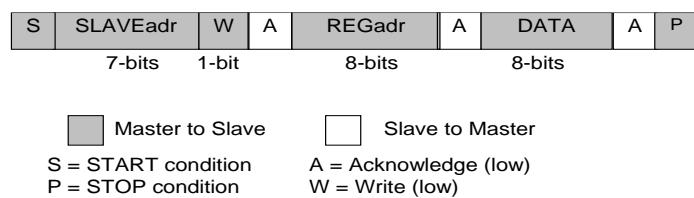
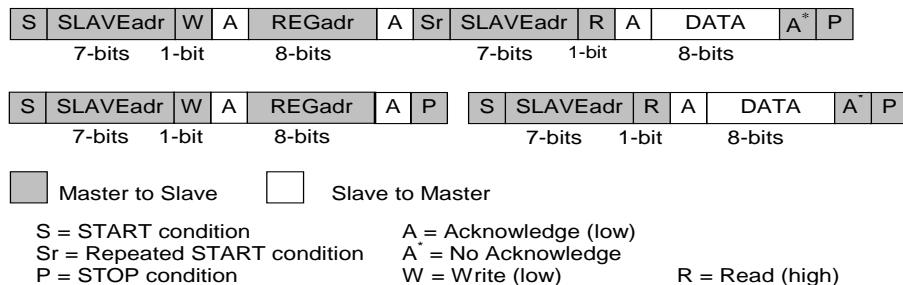

Figure 12: I²C Byte Write (SDA Line)
Figure 13: I²C Byte Read (SDA Line) Examples
The I²C bus is monitored for a valid slave address whenever the interface is enabled. It responds immediately when it receives its own slave address. The acknowledge is done by pulling the SDA line low during the following clock cycle (white blocks marked with A in Figure 12 and Figure 13).
The protocol for a register write from master to slave consists of a START condition, a slave address with read/write bit, and the eight-bit register address followed by eight bits of data, terminated by a STOP condition. DA9130 responds to all bytes with acknowledge (A), see Figure 12.
When the host reads data from a register it first has to write to DA9130 with the target register address and then read from DA9130 with a repeated START, or alternatively a second START, condition. After receiving the data, the host sends no acknowledge (A^*) and terminates the transmission with a STOP condition, see Figure 13.